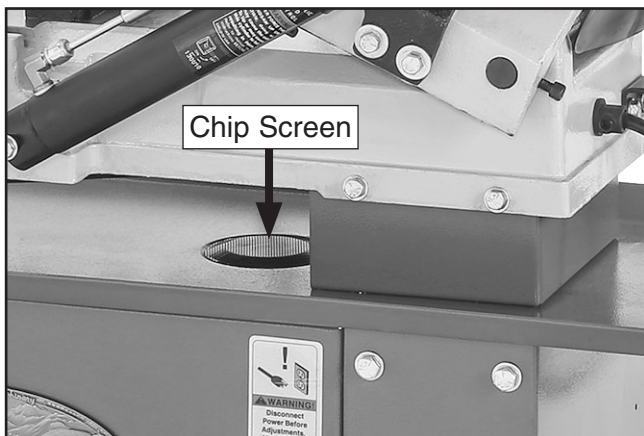

Figure 22. Chip screen installed.
- Place chip screen into opening shown in **Figure 22**.